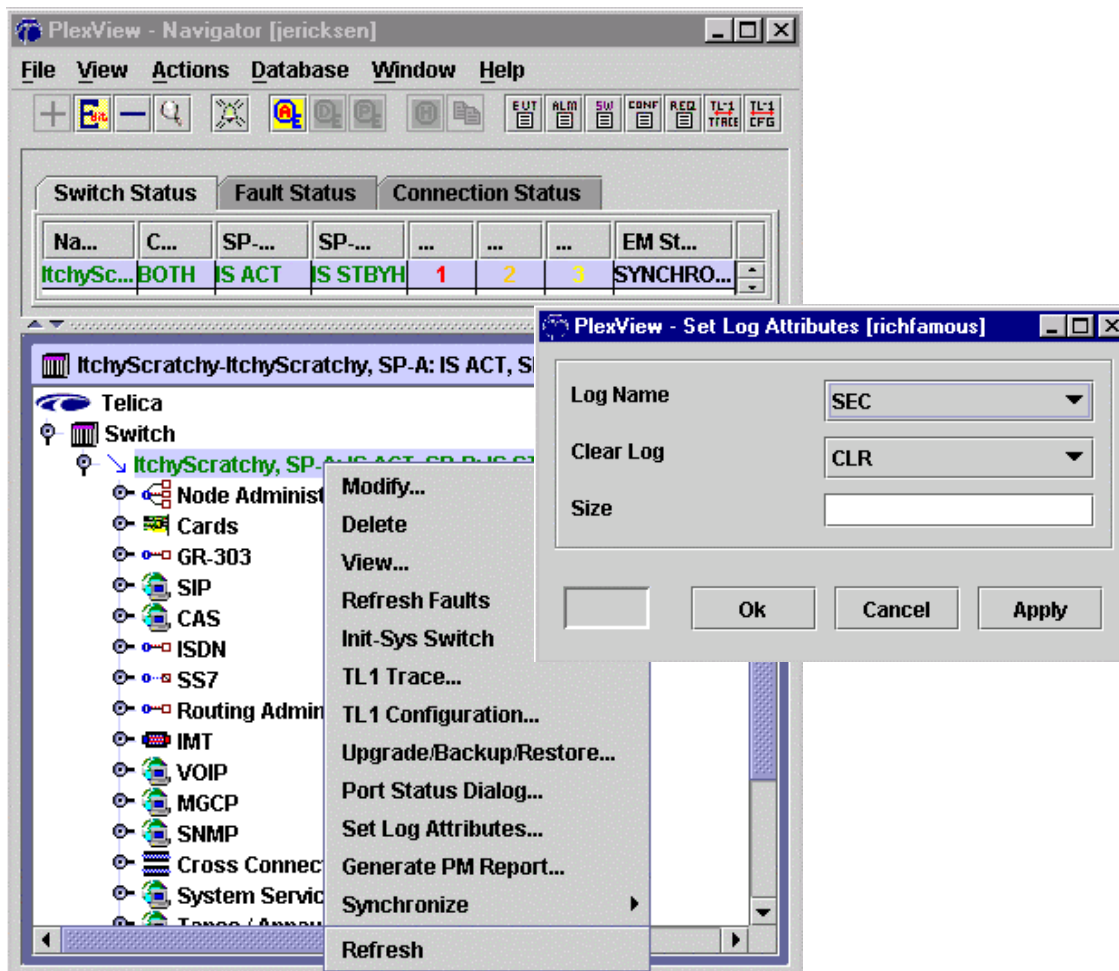

Figure 1. Setting Log Attributes
4. Double-click the switch to select it for the main panel and right-click the switch name. Then select *Set Log Attributes*. A log attribute screen will display. Refer to Figure 1.